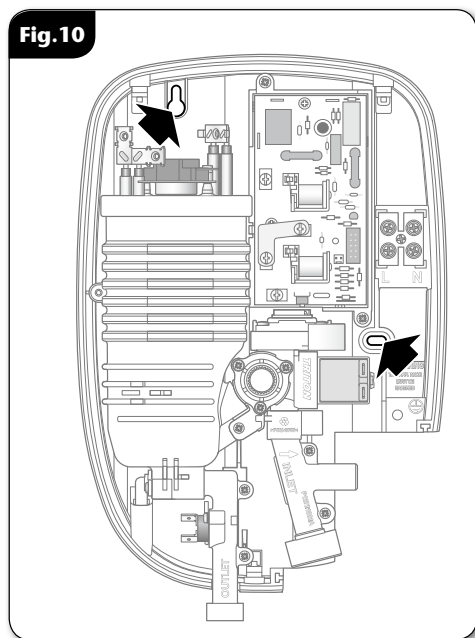

Fig. 10
- Use the backplate as a template making sure it is level and mark the fixing holes (**fig. 10**).